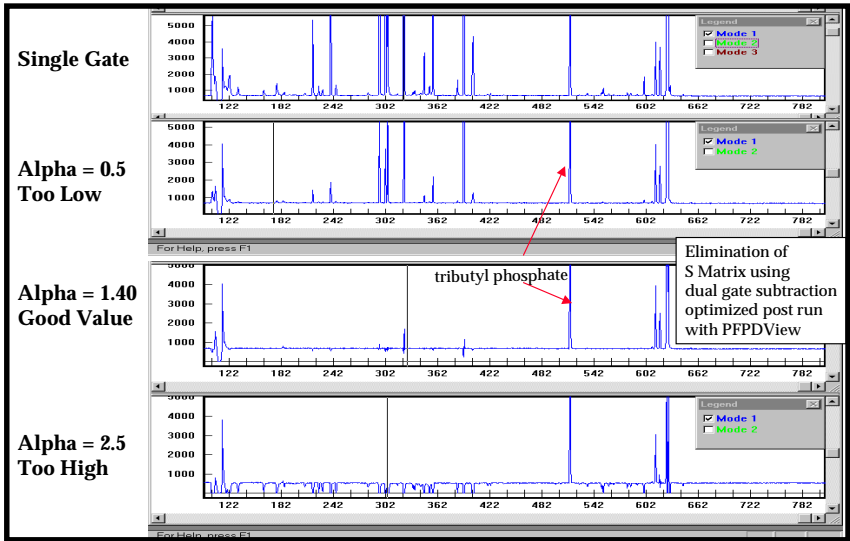

Figure 4.4. Post-Run Optimization of Dual Gate to Eliminate S Interferences in a P-Optimized Analysis
4. Evaluate the chromatogram. Repeat steps 2–3 until the proper Alpha value is obtained. (See Figure 4.4.)